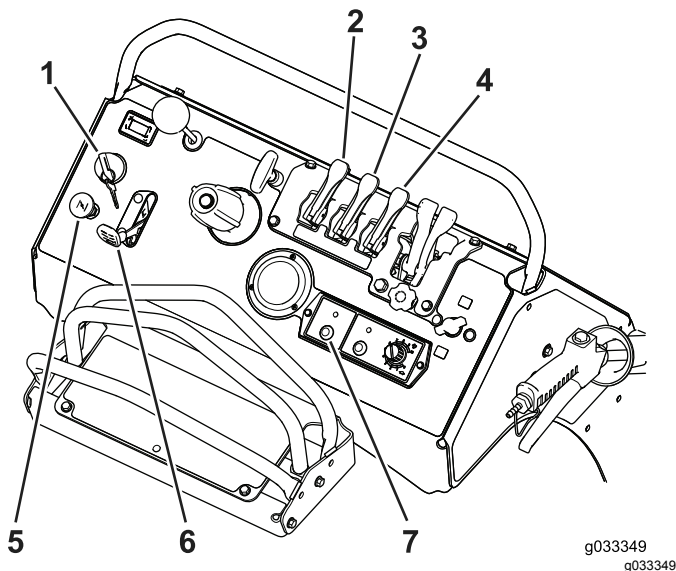

Figure 50
3. Engage the parking brake, move the steering-control/motion-control lever to the NEUTRAL position, and start the engine (Figure 50); refer to Starting the Engine \(page 21\).
4. Set the sprayer-pump switch to the ON position, and set the engine throttle to FAST position (Figure 50).
5. Move the tank-agitation lever to the ON position (Figure 50).
1. Pull back both narrow and wide-spray pattern levers to the ON position (Figure 50).
6. Move the spray-pattern levers forward to the OFF position, set the sprayer-pump switch to the OFF position, and shut off the engine (Figure 50).